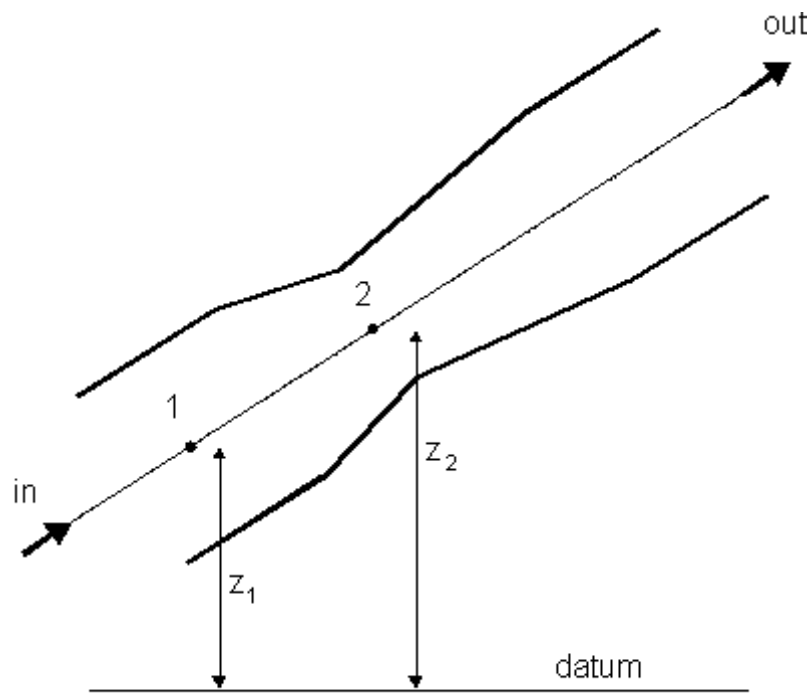

Figure 5
5.b A manometer may be attached to the Venturi meter to measure the pressure difference between point 1 and 2 in figure 5 below. Show that in this situation it is not necessary to know the inclination of the Venturi meter to measure flow rate.